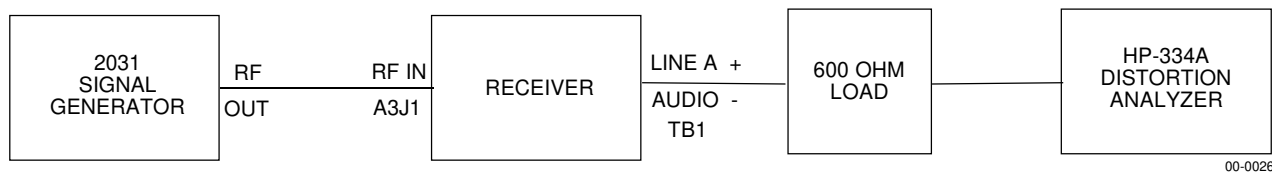

Figure 7-6. Audio Distortion Performance Test Equipment Connection
1. Connect the WJ-8711A Receiver and test equipment as illustrated in **Figure 7-6**.